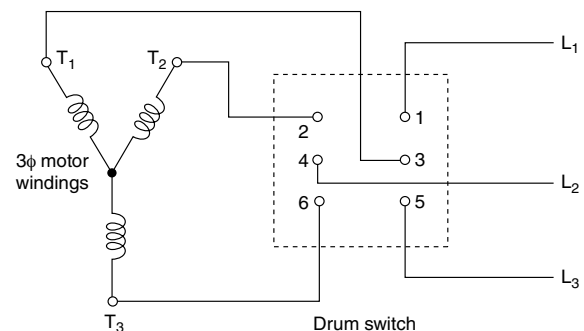

Fig. P-2
2. Using Fig. P-2, draw lines to complete the circuit between the switch terminals to cause the three-phase motor to run in the *reverse* direction.